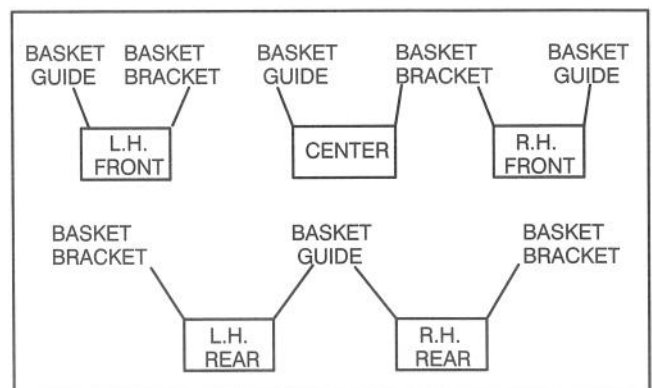
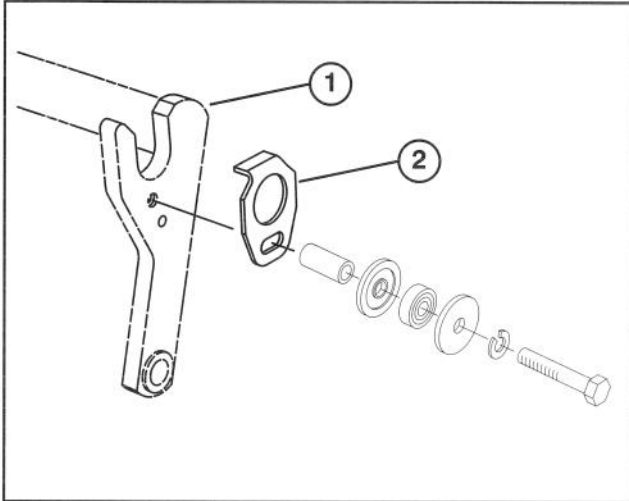
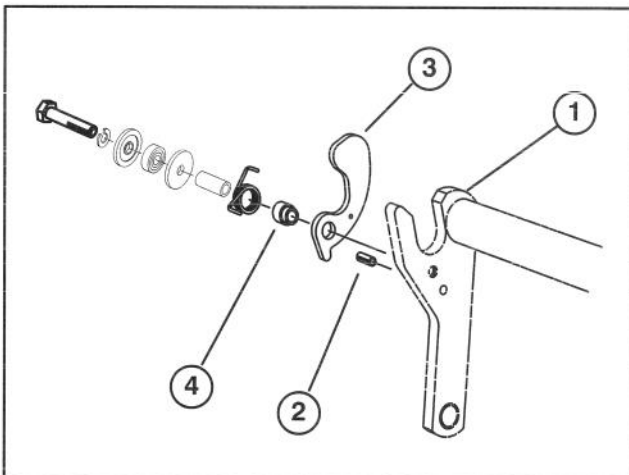
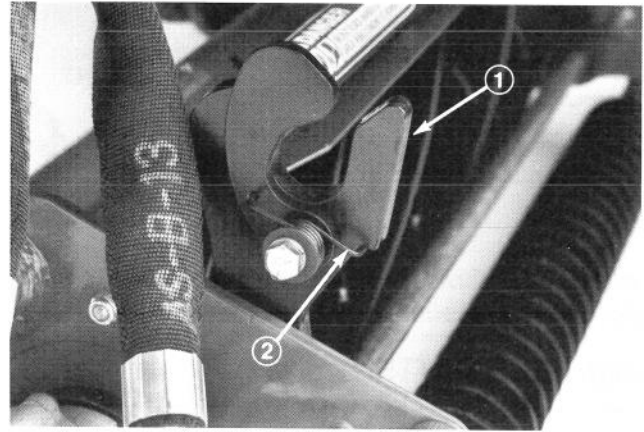

Figure 7
Figure 8
Figure 9
Figure 10
2. Using chart below (Fig. 7) determine the locations at which basket guides or basket brackets must be mounted to cutting unit carrier frames.
Note: If cutting units are equipped with Turf Compensation Kits, remove hardware securing kit to each end of carrier frame (Fig. 8 & 9) and reuse when installing basket guides and basket brackets.
3. Mount a basket guide (Fig. 8) to the appropriate side of each cutting unit carrier frame (see figure 7) with a 5/16–18 x 1–3/4" lg. capscrow, flatwasher and lockwasher or fasteners previously removed, as shown in figure 8.
4. Install a roll pin (Fig. 9) into hole in appropriate side of each cutting unit carrier frame (Fig. 7).
1–3/4" lg. capscrow, lockwasher, flatwasher, torsion spring, basket collar or fasteners previously removed, as shown in figure 9. Torsion springs are different for L.H. and R.H. sides of carrier frames. Three are (2) L.H. and (3) R.H. springs. Longer leg of spring is to be positioned forward as shown in Fig. 10.